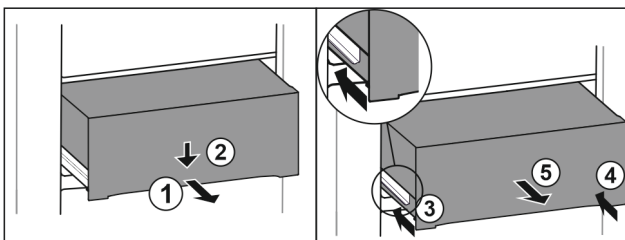

Fig. 128
- ▶ Pull out drawer half-way. Fig. 128 (1)
- ▶ Push the drawer down at the front. Fig. 128 (2)
- ▶ Push the left rail in by about 2 cm. Fig. 128 (3)
- ▶ Push the right rail in by about 2 cm. Fig. 128 (4)
- ▶ Remove drawer to the front. Fig. 128 (5)